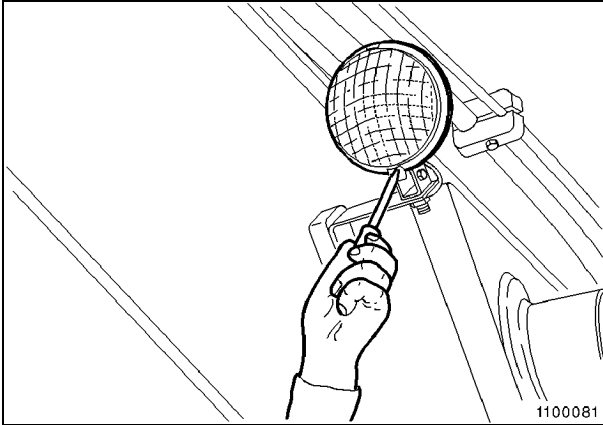

Fig. 10
- Unscrew the fastening screws of the lamp glass (Fig.10)